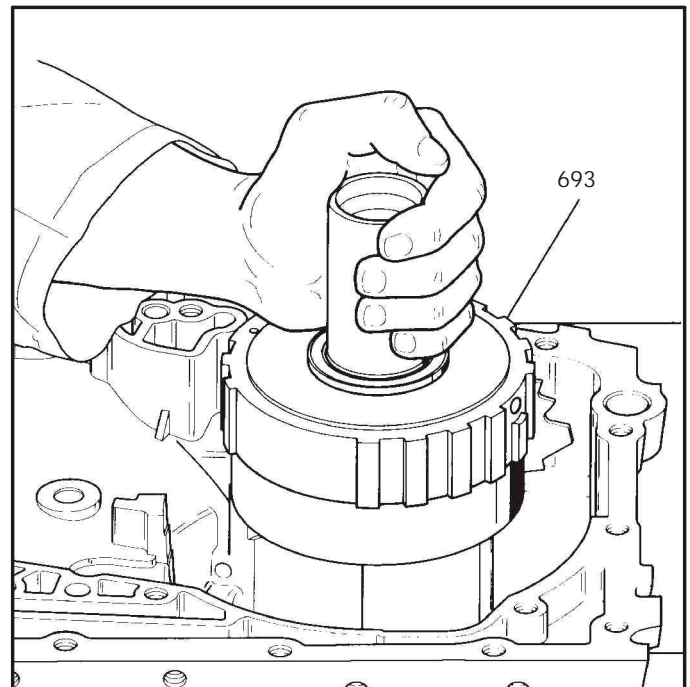

Figure 78
35. Remove the final drive internal gear from the transaxle case by lifting straight up, as shown in Figure 78. The roller support thrust washer will be on the final drive internal gear.